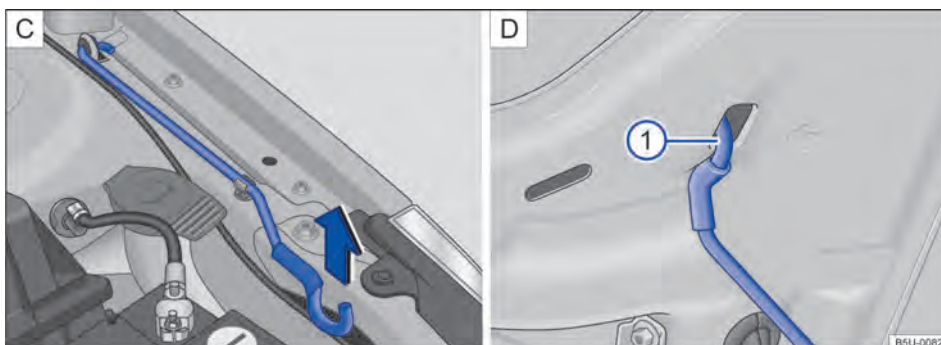

Fig. 186 [C] Bonnet stay. [D] Bonnet secured with the bonnet stay.
- Take the bonnet stay out of the holder in the direction of the arrow → Fig. 186 [C] and insert it in the bonnet opening → Fig. 186 ① [D].
- Take the bonnet stay out of the holder → Fig. 186 ① [D] and insert it in the opening in the bonnet → Fig. 186 [C].